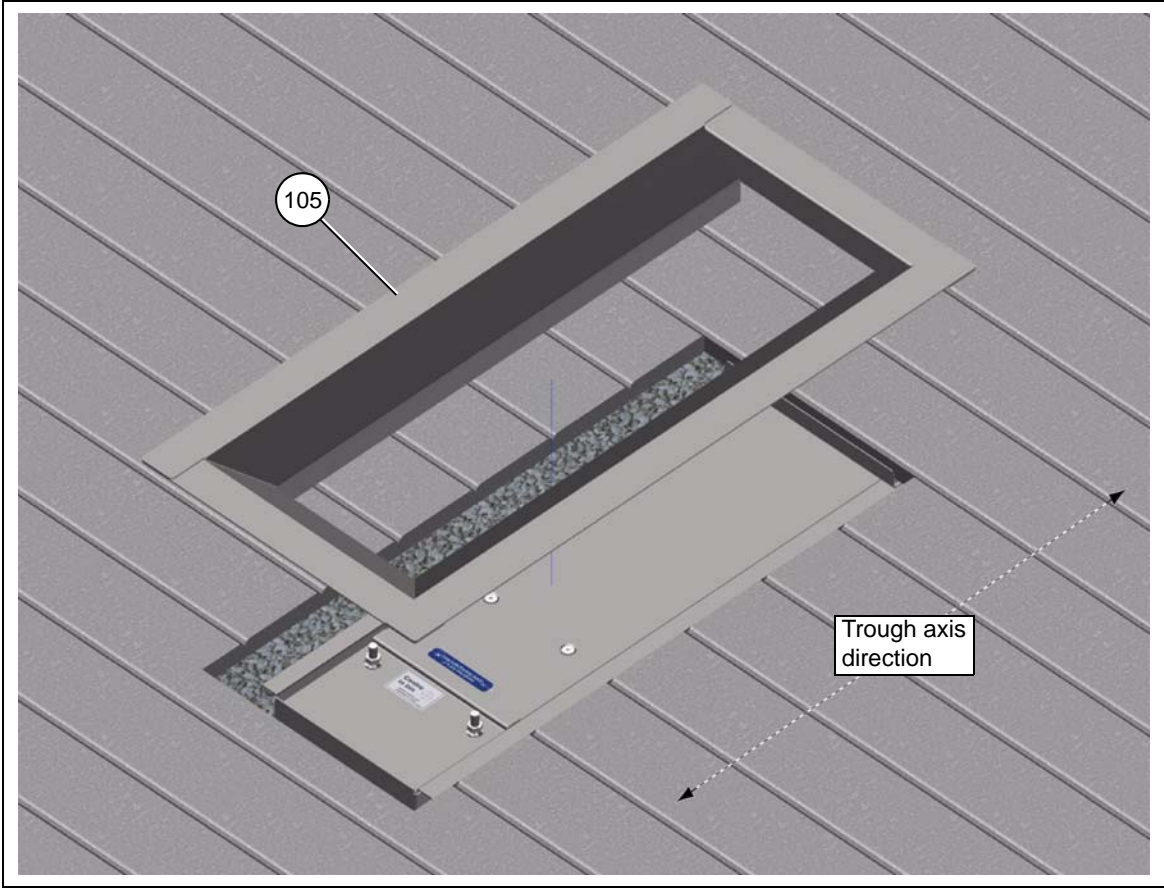

Figure 4H
8. Install the center floor flange (105) (but not the center floor grate yet). (See Figure 4H.)